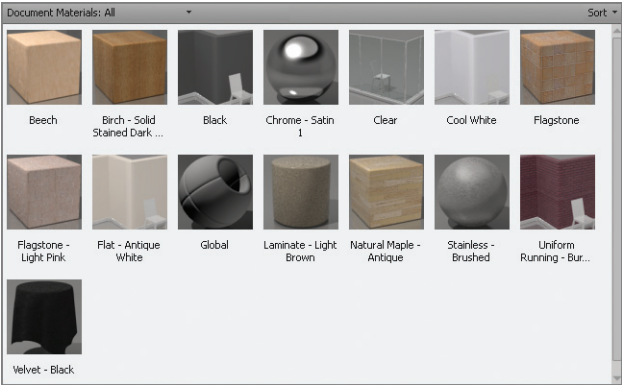

FIGURE 18.3 Materials loaded into the current drawing
5. Figure 18.3 shows all the materials loaded into the current drawing. Close the Materials Browser.